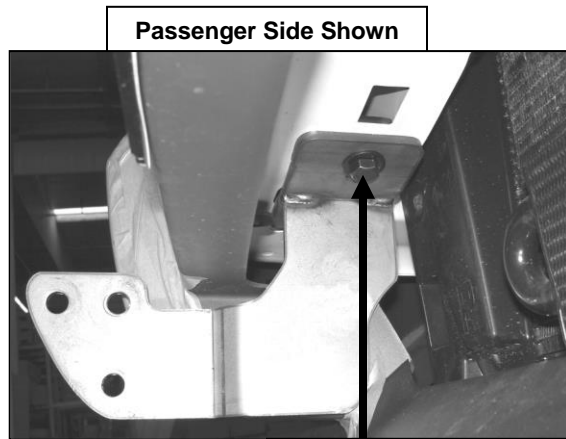

Figure 3
4. Hang passenger side Mounting Bracket into position by partially threading (1) 10-1.50mm x 35mm Hex Head Bolt, (1) 10mm Flat Washer, and (1) 10mm Lock Washer on the inner side of the Mounting Bracket and trough already inserted Double Nut Plate. From underside of vehicle proceed to install another Bolt with Washer and Lock Washer on the outer side of the Mounting Bracket and trough Double Nut Plate (Figure 3). Do not tighten at this time.